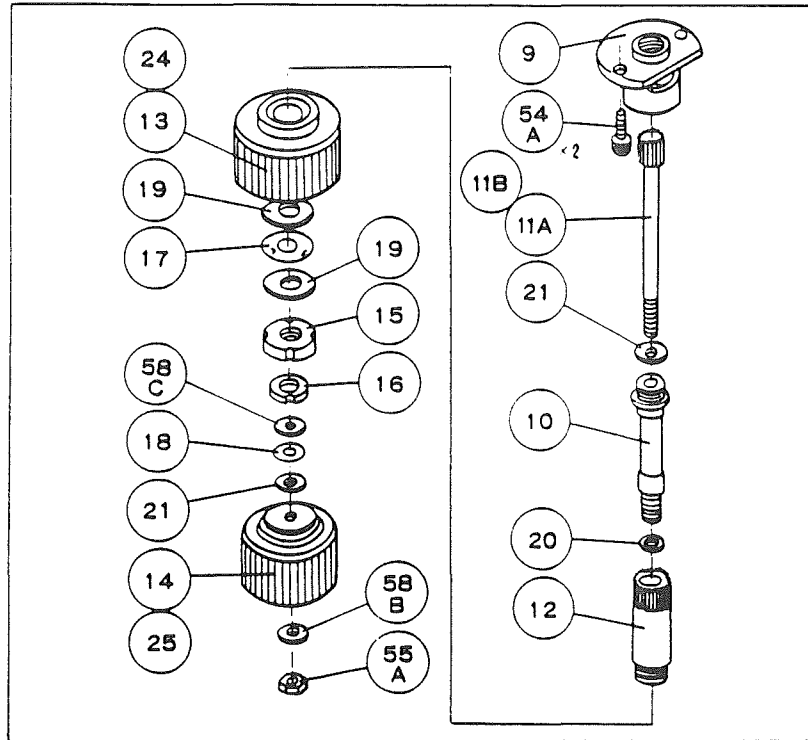

Fig. 3
- 12) Remove the Delrin washer (20).
- 13) Remove the X pinion (11A)(11B) together with the Delrin washer (21). (Fig. 3)